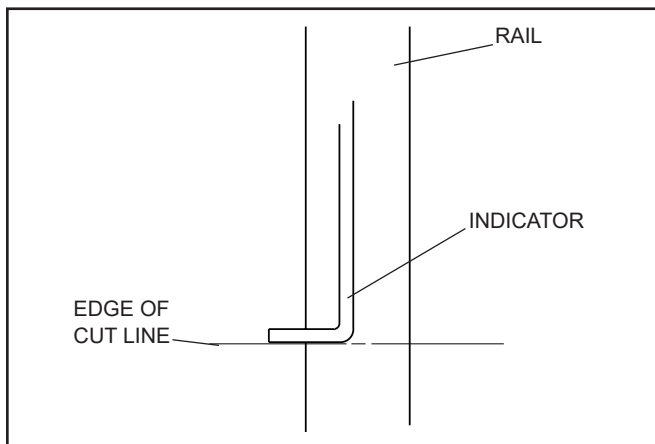

Figure 3.
4. Move the rail saw along the rail until the indicator is next to the cut as shown in Figure 3.